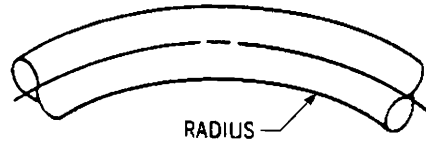

Figure 23: Minimum bend radius.
- Installation with bending — When bends are required, the radii shown in Figure 23 should be maintained for normal installation with no flexing. A larger radius than the minimum allowed is preferred.